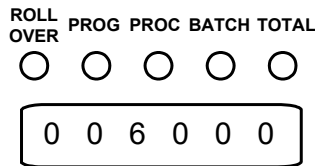

Figure 22: Security Code Number in Diagnostics Mode
3.	Press the ◀ LEFT ARROW key and the display will show the default Security Code of 006000, as shown in Figure 22.